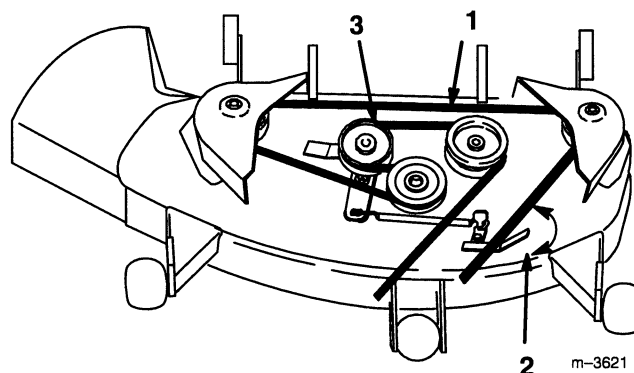

Figure 6
9. Rotate tension lever counterclockwise to relax spring and install mower drive belt in engine drive pulley (Fig. 6).
10. Rotate lever clockwise to tension spring and belt (Fig. 6).